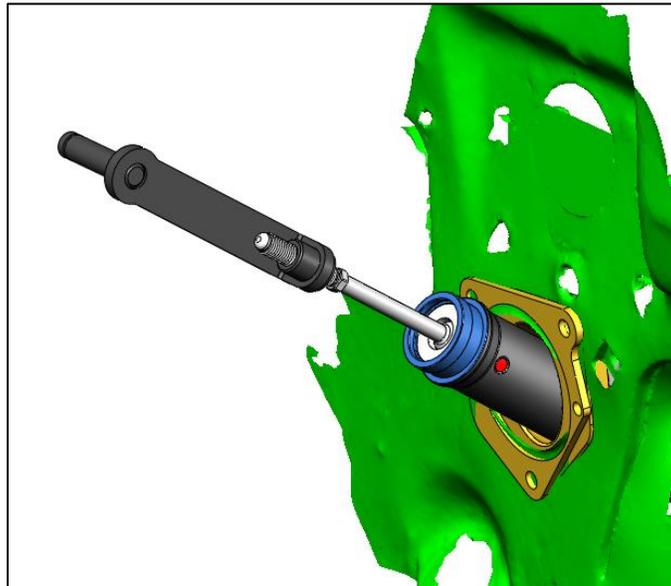

Figure 4: Clutch Rod Linkage Assembly
19. Install the 5/16 thin hex nut and clutch pedal linkage onto the clutch master cylinder as shown in Figure 4.